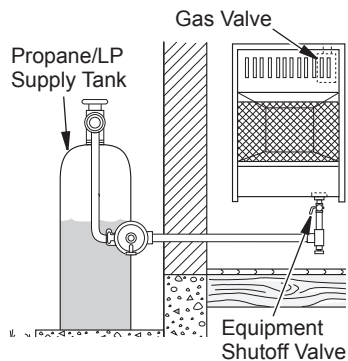

Figure 15 - Checking Gas Joints
3. Check all joints from gas supply to equipment shutoff valve (see Figure 15). Apply a noncorrosive leak detection fluid to all joints. If bubbles form, there is a leak.
4. Check all joints from equipment shutoff valve to control valve (see Figure 15). Apply a noncorrosive leak detection fluid to all joints. Bubbles forming show a leak.